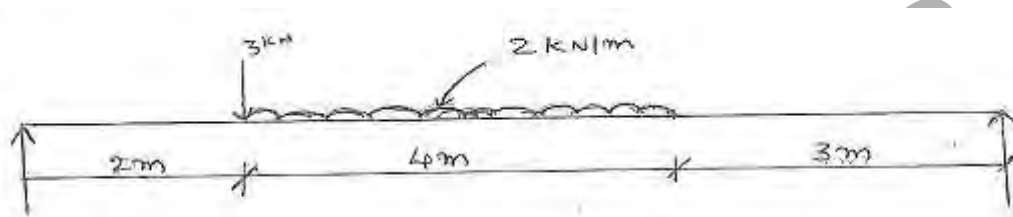

Figure 1
1. Sketch the shear force and bending moment diagrams showing the salient values for the loaded beam shown in the figure 1 below. [16]